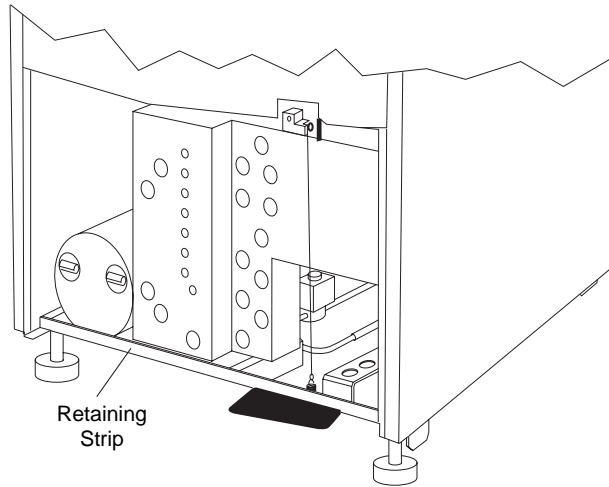

Figure 4-4. Front Panel Retaining Strip
1. Holding the panel at the top (with the instrument label facing out), insert the three grooved brackets on the bottom inside of the door over the front panel retaining strip (see Figure 4-4). Push the top of the front panel into place.